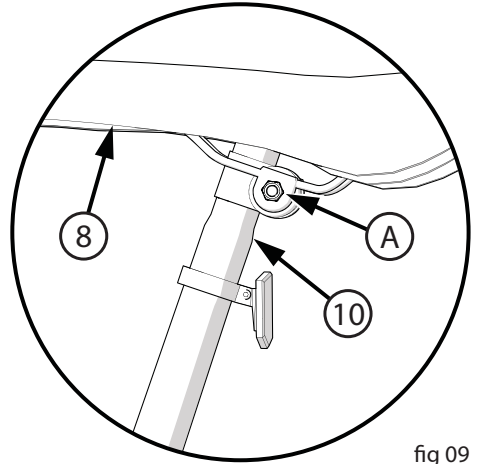

fig 09
Attach Seat to Seat Post (fig 09):
- **If the seat moves in the Seat Clamp (A) (fig 09):**
- Loosen the Seat Clamp (A).
- **If the Seat Post (10) moves in the Seat Tube (B):**
- Move the Quick Release Lever (D) to the “open” position.
- If necessary, loosen Quick Release Lever, tighten Adjusting Nut (F) and re-tighten Quick Release Lever.